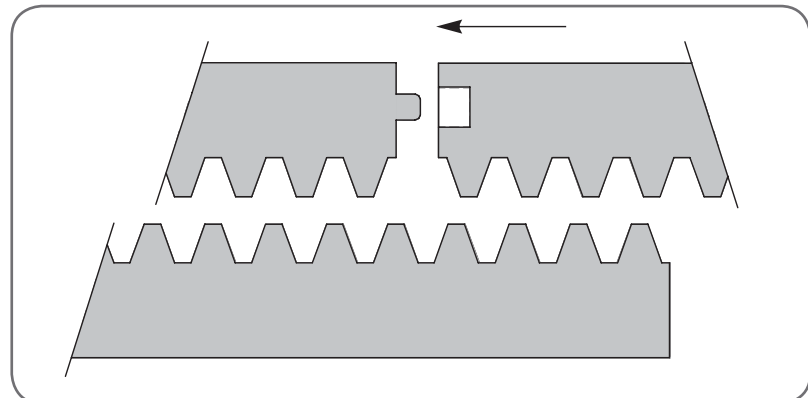

Fig 5.2
- When joining subsequent sections of rack, check the mesh by placing a spare section upside down (teeth facing upwards) and putting it into mesh with the racks being joined (**Fig. 5.2**).